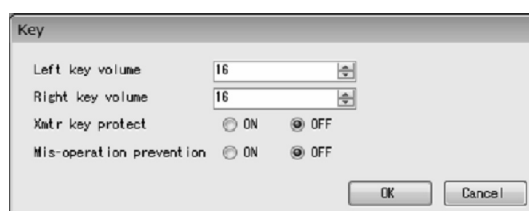

Fig.95
- ① Click the "Setup (S)" menu, and then select and click "Key".
- ② The following window will be displayed (Fig. 95). Set the sensitivity of transmitter keys and other items here.